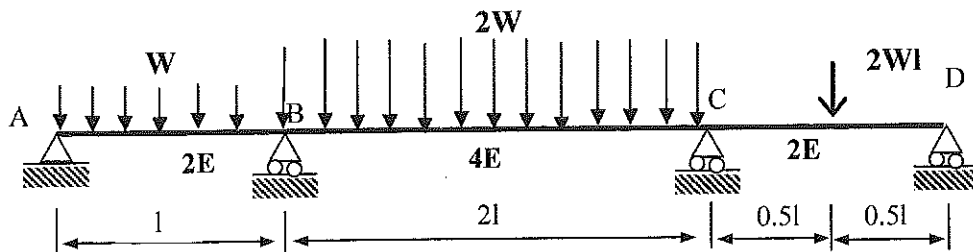

Figure Q3
- (ii) A continuous beam (ABCD) is shown in Figure Q3. Flexural rigidities of members AB and CD are equal to $2EI$ and member BC is $4EI$. Uniformly distributed loads (W), ($2W$) are acting on members, AB and BC, respectively. There is a concentrated load ($2Wl$) in member CD.